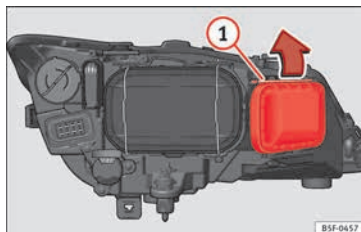

Fig. 106 Turn signal bulb.
- Move the loop » **Fig. 106 ①** in the direction of the arrow and remove the cover.